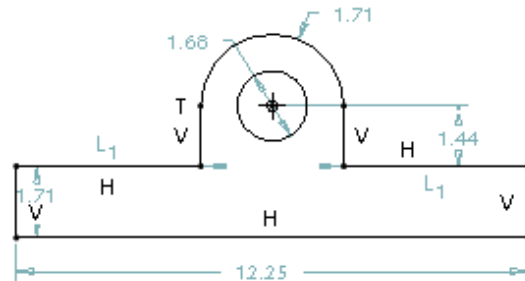

Figure 3-37 Sketch after drawing the arc and the circle
6. Click on the arc; a red rubber-band circle appears. Size the circle by moving the cursor and click to complete it. The sketch after drawing the circle is shown in Figure 3-37.